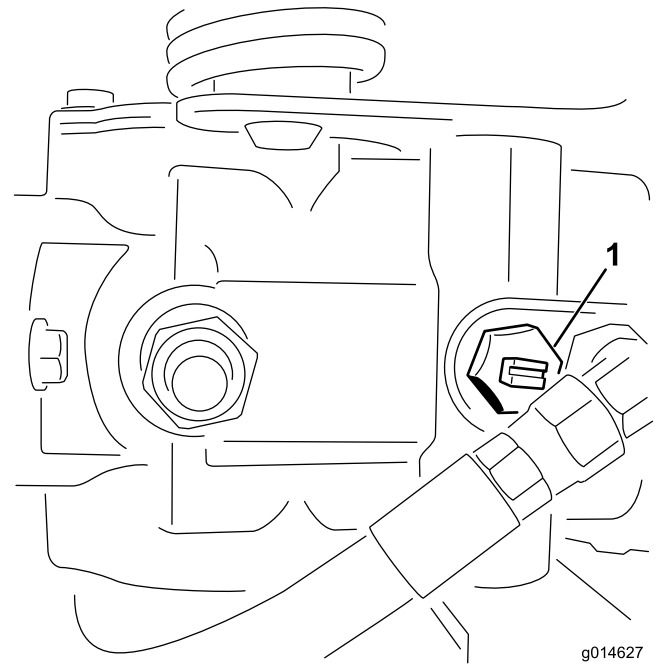

Figure 39
2. Before starting the engine, close the bypass valve by rotating it so that the slot is horizontal (Figure 39). Do not start the engine when the valve is open.
1. Locate the bypass valve on the pump and rotate it so that the slot is vertical (Figure 39).